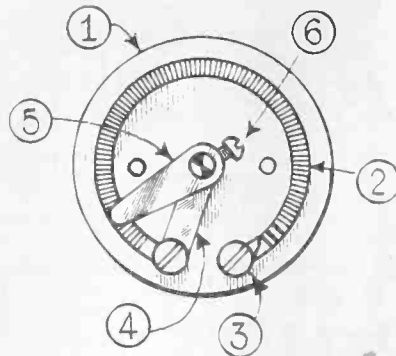

Fig. 1
Fig. 1 shows the rear view of a standard type of wire-wound rheostat numbered for ready reference. This type is designed to be mounted on a panel, as are practically all of the rheostats made.
THE WIRE-WOUND TYPE of rheostat (Fig. 1) consists of six parts, numbered on the diagram. The base (1) is made of bakelite or hard rubber. The sector on which the wire is wound is designated 2. The total amount of wire wound thereon, and its thickness, determine the total maximum resistance of the rheostat. The connection between the wound wire and the rheostat binding post (3) should be firm and secure. The connecting strip (4) is joined to the remaining binding post of the rheostat and the movable contact arm (5) through a shaft. This shaft protrudes through the front panel of your set. The movable arm is secured to the shaft by means of a set-screw (6).